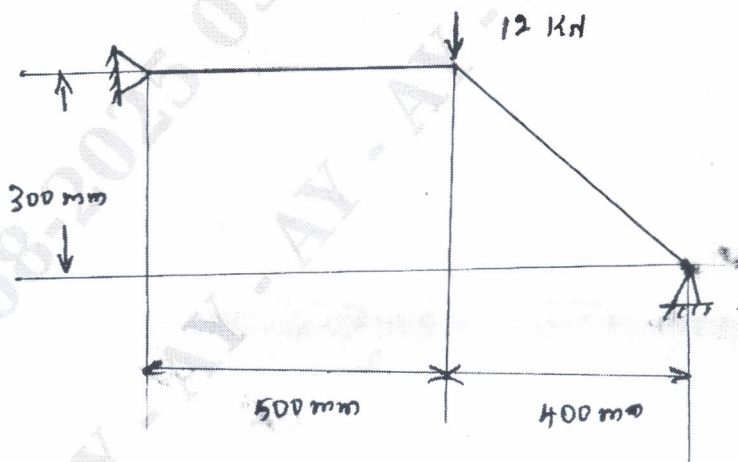

Fig Q6
- 6 For the two bar truss shown in Fig Q6, it is given that  $E = 2 \times 10^5 \text{ N/mm}^2$  and  $A = 200 \text{ mm}^2$  for all elements.